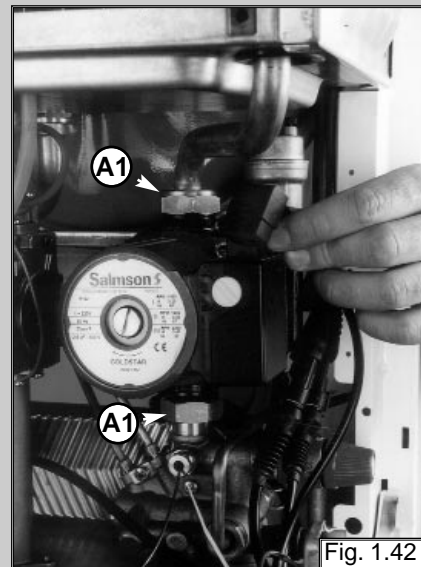

Fig. 1.42
2. Release the nuts "A1" and remove the pump (see fig. 1.42).